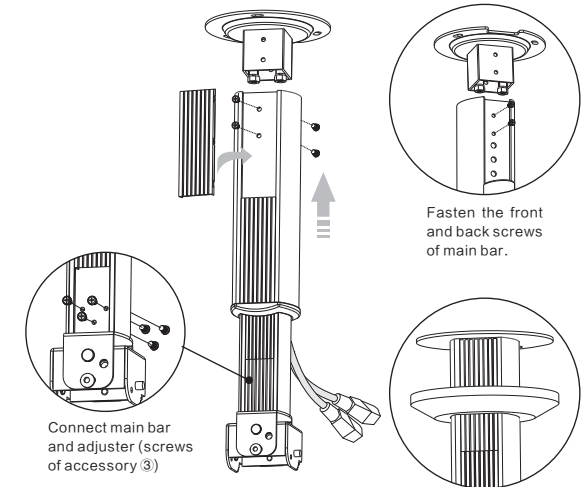

figure 4
- ② Connect the GPCM Main Bar Overview to the fixation (screws of accessory ②). Store the power wire, and then fasten the front and back screws of main bar. Finally, install the ornament board of main bar as figure 4.